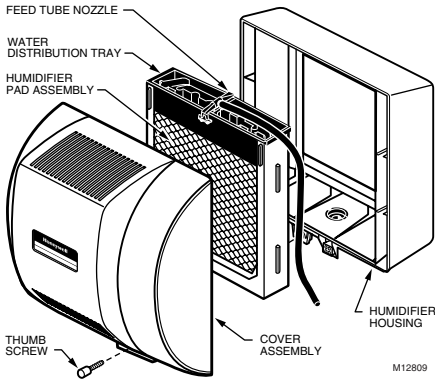

Fig. 3. Disassembling humidifier.
6. Disassemble the humidifier; remove the cover and take out the humidifier pad assembly. See Fig. 3.